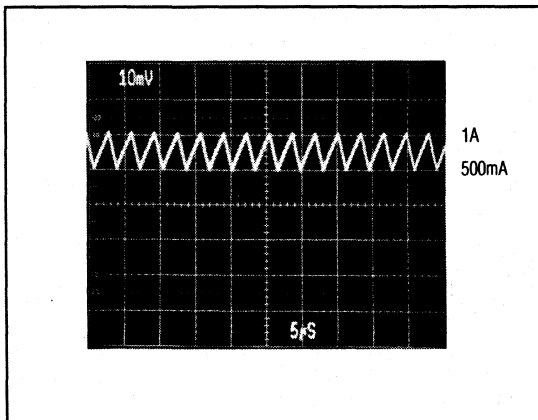

Figure 4a. CCM, Heavy Load Current Waveform (500mA/div)
The MAX761/MAX762 also limit the peak inductor current, allowing the devices to run in continuous-conduction mode (CCM) and maintain high efficiency with heavy loads (Figure 4a). This current-limiting feature is a key component of the control circuitry. Once turned on, the switch stays on until either (1) the maximum on-time one-shot turns off (8µs later), or (2) the current limit is reached.
The coil's inductance need not satisfy this criterion exactly, as the circuit can tolerate a wide range of values. Larger inductance values tend to produce physically larger coils and increase the start-up time, but are otherwise acceptable. Smaller inductance values allow the coil current to ramp up to higher levels before the switch can turn off, producing higher ripple at light loads. In general, an $18\mu\text{H}$ inductor is sufficient for most applications ($V_{\text{IN}} \leq 5\text{V}$). An $18\mu\text{H}$ inductor is appropriate for input voltages up to 3.6V , as calculated above. However, the same $18\mu\text{H}$ coil can be used with input voltages up to 5V with only small increases in peak current, as shown in Figures 4a and 4b.